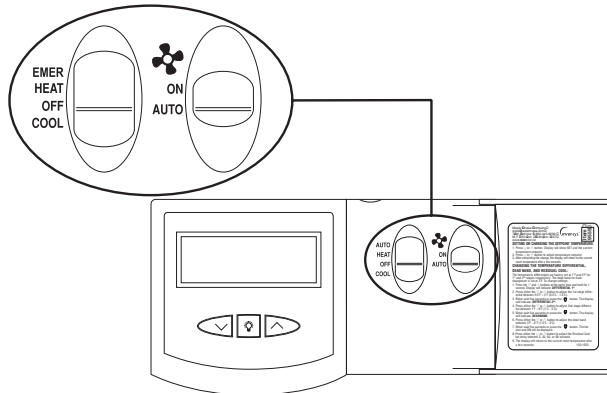

Figure 2
2. Place EMER-HEAT-OFF-COOL in OFF position (Figure 2).
3. Place  -ON-AUTO switch into AUTO position (Figure 2).